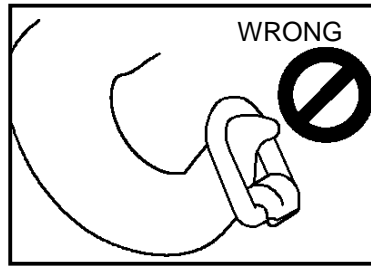

Figure 1
- Attach lifting device ensuring free movement of weld-on lifting point bail (Figure 1).